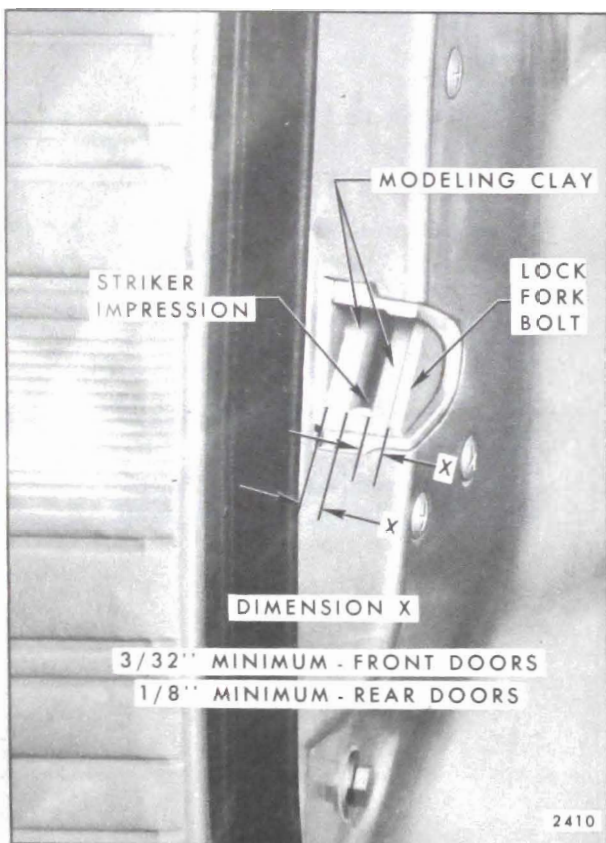

Fig. 6-13 - Lock to Striker Engagement
- b. Apply modeling clay or body caulking compound to lock bolt opening as shown in Fig. 6-13.
- c. Close door only as far as necessary for striker bolt to form an impression in clay or caulking compound as shown in Fig. 6-13.
Striker head should be centered fore and aft as shown, however, some tolerances are allowed. In any alignment, it is important that minimum dimensions, as outlined in Figure 6-13, be strictly maintained. The following spacers are available as service parts and can be used individually or in combination to achieve the desired alignment.